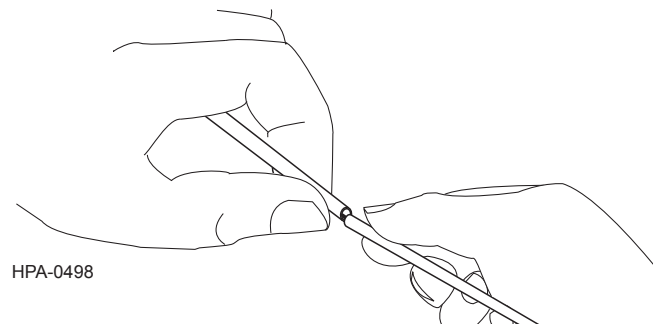

Figure 14
Step 3: Carefully flex the tube to break it at the score point (Figure 14).